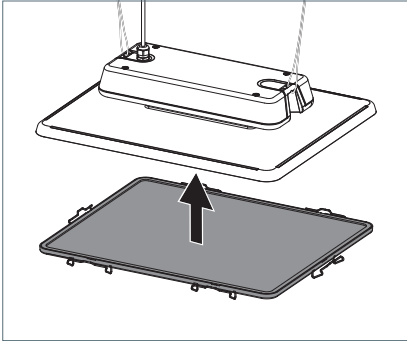

Fig. 12: Positioning the safety glass.
- ▶ Place the safety glass on the luminaire from below, see Fig. 12.